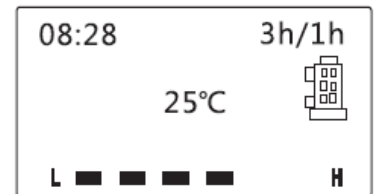

Figure 6-9
(2). Setting the chlorine output level: 6 levels options. Press "  /  " button to increase or decrease chlorine output, and shown on small blocks under screen. More bright blocks signifies more chlorine output. Maximum is 6 blocks. shown as figure 6-9.